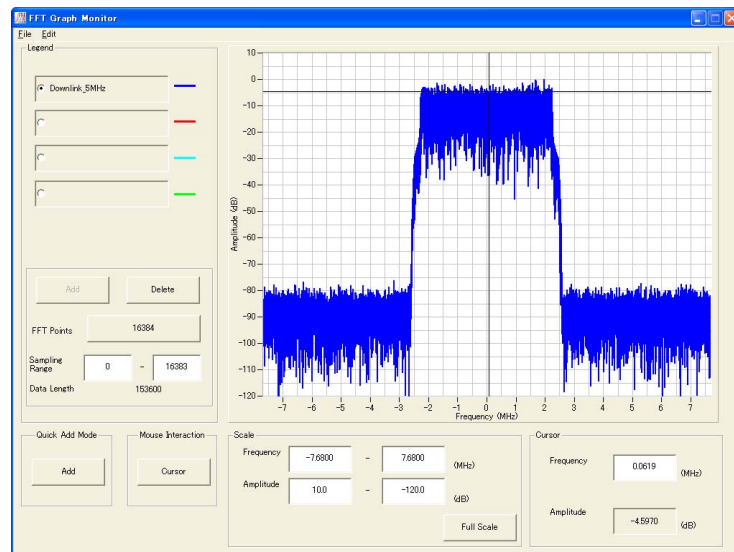

Figure 3.5-3 FFT Graph Monitor screen
2. Select **FFT** from the **Simulation** menu or click the  tool button. The FFT Graph Monitor screen shown in Figure 3.5-3 is displayed with the trace of the generated waveform pattern.